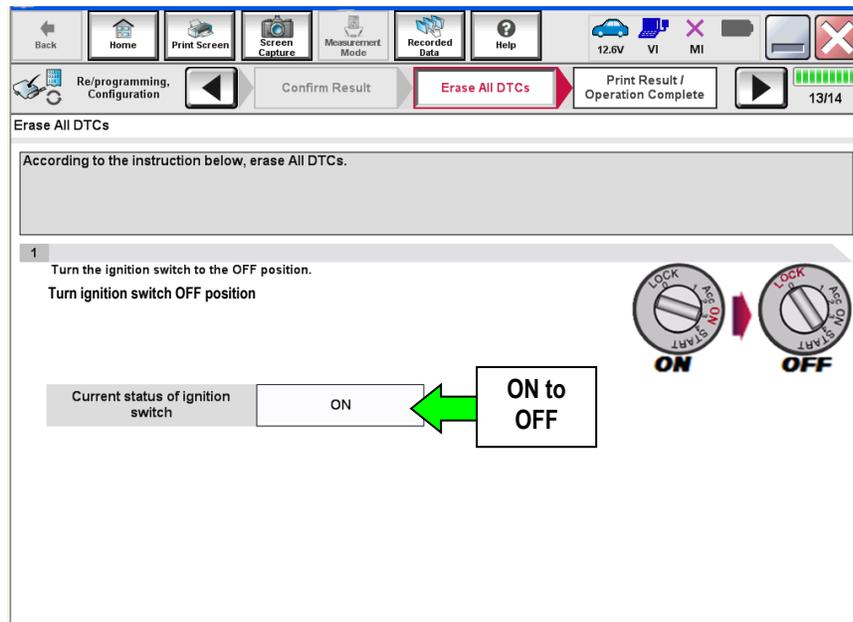

Figure 18
- The screen in Figure 18 will read OFF after pressing the power switch once.